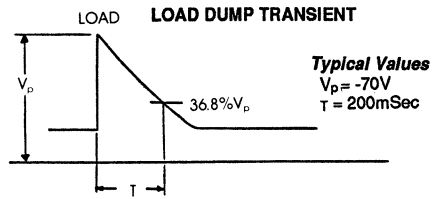

Figure 4
1. A load dump transient occurs when the alternator load is suddenly dropped due to battery disconnection. Voltages can range from 30 to 125V for up to 400 ms. This is considered the worst of all types of transients and was made a test requirement for all electrical systems and modules designed for the automotive industry back in the 1970's. See Figure 4